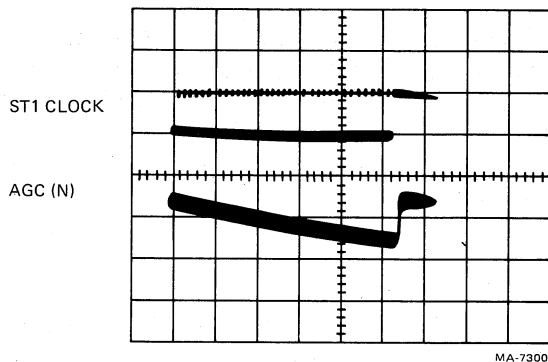

Figure 6-40 Automatic Gain Control (AGC) Waveform – GCR Mode
- g. The trace on Ch1 should have a series of 32 positive going ST1 CLOCK pulses displayed, each with a period of $850 \mu s \pm 85 \mu s$. Refer to Figure 6-40. Position the Ch2 trace (straight line) on the bottom graticule of the screen.
Make sure the scope probe is grounded to the preamp to eliminate unwanted noise. Refer to the lower trace shown on Figure 6-40. The waveform dc level should start at approximately +1.7 V (PE gain level) and ramp down, in a staircase pattern, to approximately +1.2 V.